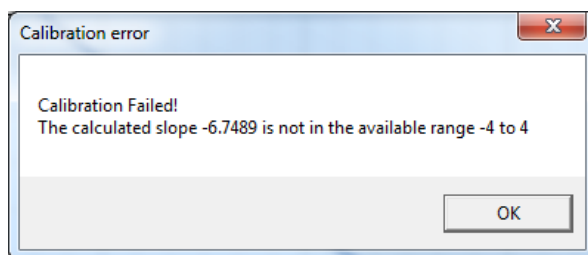

Figure 33. Unsuccessful Calibration Message
4. If the calculated values are out of range or the calibration is not possible, a message will inform the user which value is affected. The most common cause of unsuccessful calibration is setting the start and end target positions too close to each other since this could require a slope value larger than the valid range of slope values. See Figure 33.